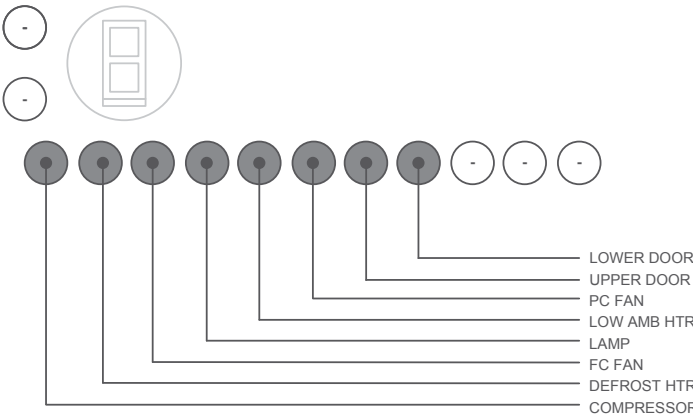

Fig.7 Input/output assigned to each LED
- 3 The respective LED turns on when a device is running, as shown in Fig.7 above.